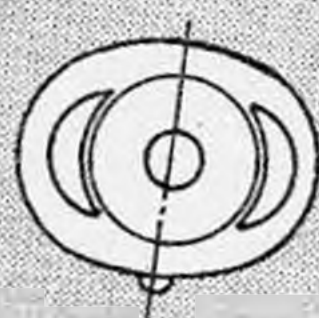

FIG 6 COMBINED AIR INTAKES
This brings us to the actual carburetter assembly as shown in Fig. 6. The portion marked (1) is, of course, the section of the main housing shown in Fig. 5. In this drawing (Fig. 6) is shown, however, the body of the carburetter held in the housing. The body is marked (4). It consists of a plain, cylindrical turning, with a small collar turned near one end. The arrow leading from the figure (4) is actually pointing to this collar. The top part of the body is threaded for a short distance, while the remainder is made a push fit in the housing. The body is also drilled along its length, and the top portion of this hole threaded to take the adjusting needle. Into the lower bore is pushed a small length of brass tubing, into the top of which is soldered the jet. This tubing is marked (6).
In view of the tendency to fit air intakes in the leading edge of radial engine cowlings, now in evidence by American designers, a simple method of making such nose-entries in card is useful. As applied to the Liberator III, a circular cardboard ring with two curved strips for the outer edges of the intakes are glued to the former at the front of the elliptical main cowl, and the space around filled with plastic woods. (See Fig. 6.)